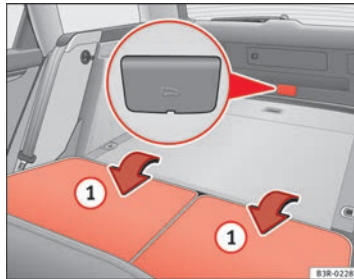

Fig. 75 Detail of the rear seats and luggage compartment: access to the emergency release mechanism
- Fold down both rear backrests ① ⇒ Fig. 75.